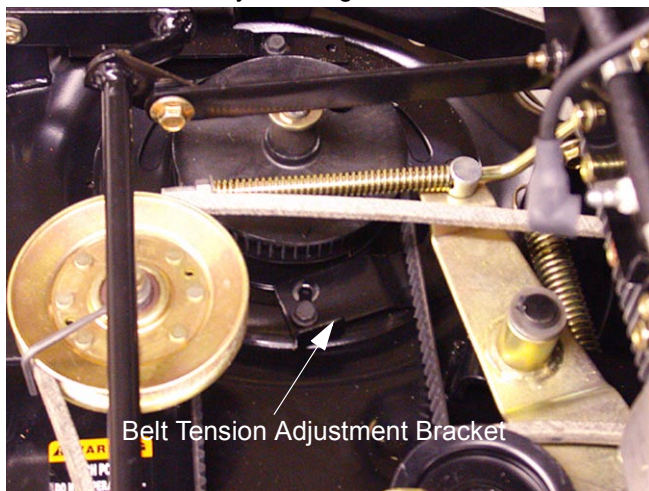

Figure 36
- 12.2. Using a 1/2 inch socket loosen the screw securing the belt tension adjustment bracket and turn it out of the way. See Figure 36.